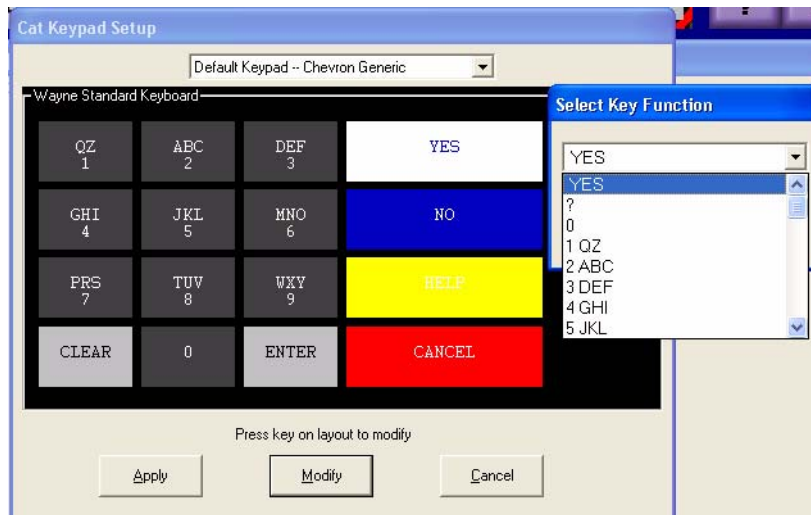

Figure 7-50 Select Key Function Pull-down
3. Choose a function from the **Select Key Function** pull-down that you wish to assign to a keypad location. Be sure that the function that you assign to a location matches the CAT Keypad layout. See Figure 7-50.